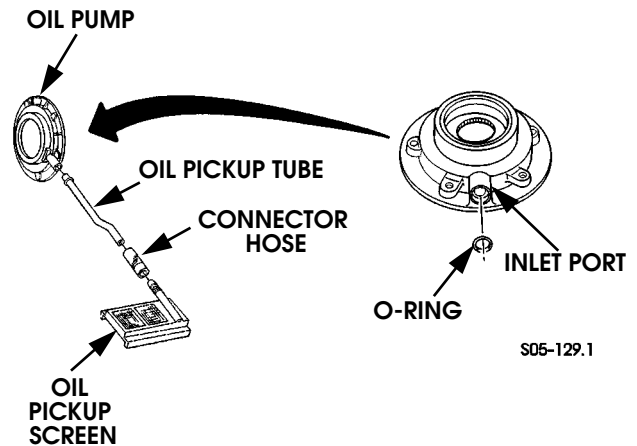

Figure 5-162: Oil Pump and Pickup Component Assembly
- 29. Install new O-ring in oil pump inlet port. Then assemble pump, pickup tube, connector hose and pickup screen (Figure 5-162).